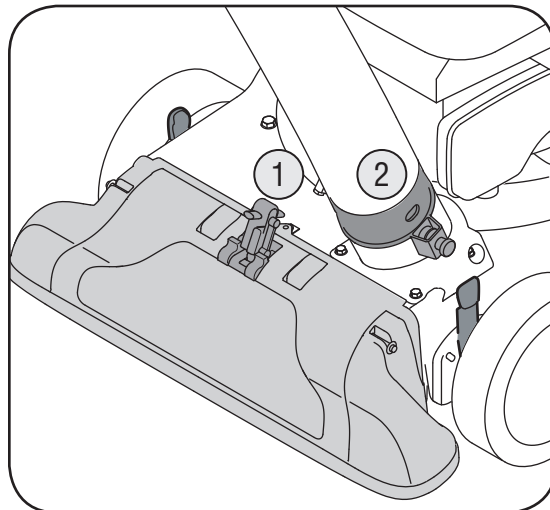

Figure 12
- Place nozzle/hose vac lever in the top position on the nozzle to vacuum through nozzle. See Figure 12.